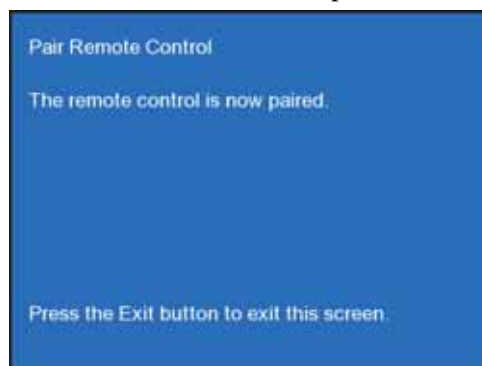

Figure 3-42 Remote Paired
4. The message The Remote Control is now Paired appears on each tile in the array once the process is complete (**Figure 3-42**). To return to video press **Exit** on the remote.